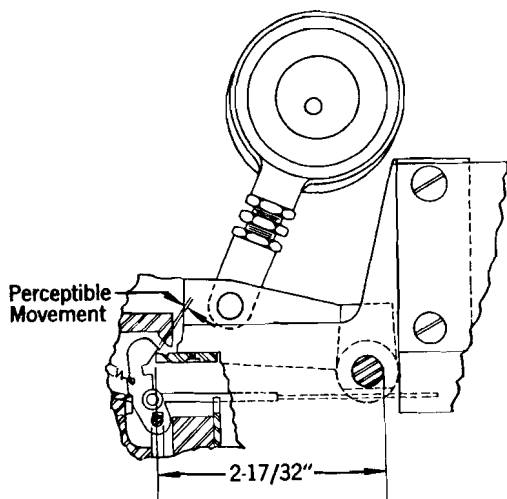

Figure 36. Punch Bail Tongue Adjustment
The punch bail tongue should be adjusted so that it is 2-17/32" from the front edge of the tongue to the back of the punch bail pivot shaft (Figure 36). Loosen the four holding screws. Then position the tongue in relation to the bail by means of the two adjusting screws. This should not require adjustment unless a punch bail or punch bail tongue is replaced.
3. Adjust the rear punch bail connecting link adjusting screw for a slight clearance ($.003''$) between the punch bail tongue and the interposers. (Figure 36). If there is any variation in the clearance from one end to the other, the $.003''$ clearance should apply to the closest end. This may be checked with a leaf gauge or by moving the interposers.